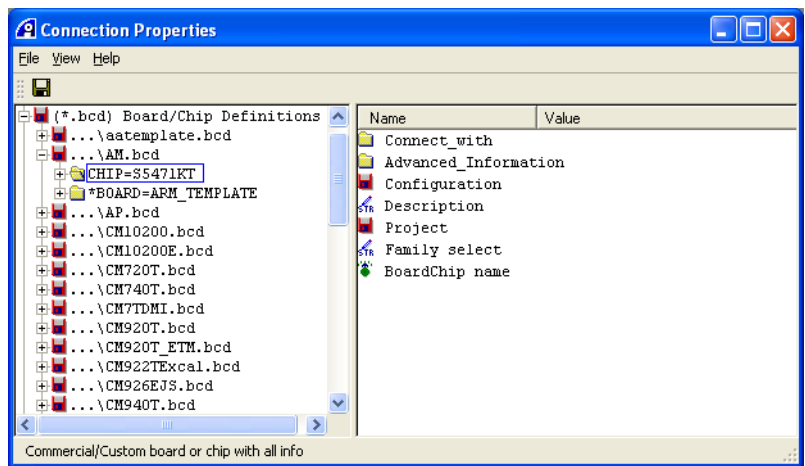

Figure 4-12 Viewing the new group in the BCD file
8. Click **OK** to create the board/chip definition. The new S5471KT board/chip definition is created. Figure 4-12 shows an example: